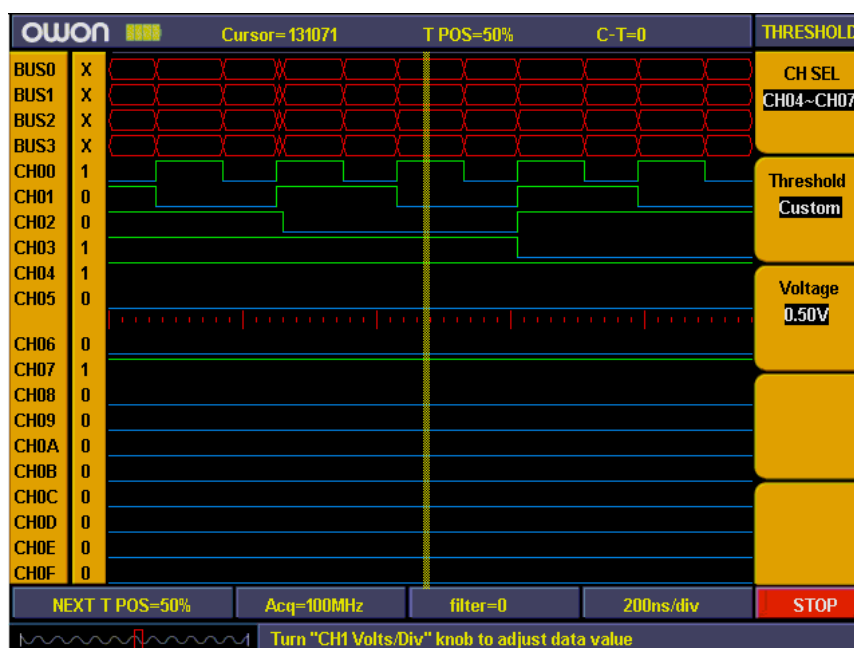

Fig.5-67: Threshold custom setting
- Threshold voltage setting finished (refer to **Fig.5-67**).